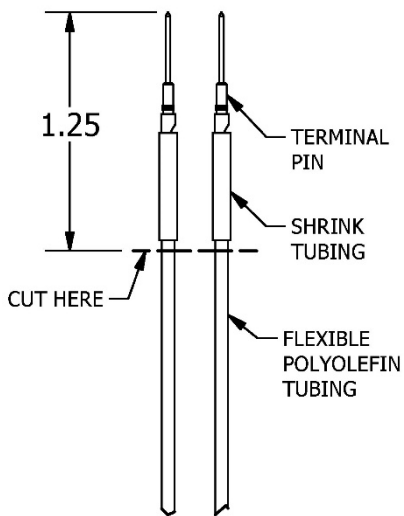
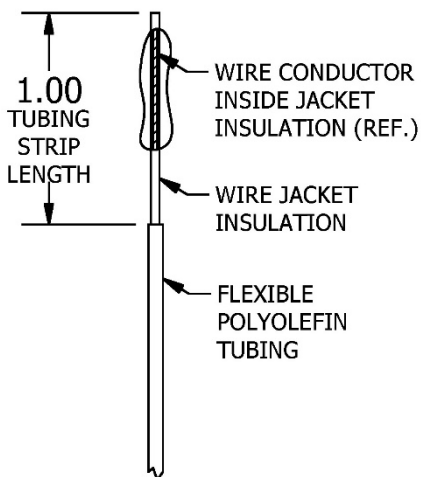

Figure 1
Figure 2
3. Unplug the (2) coil wire terminal pins from the double socket at the back of the old computer. Discard old computer.
4. Cut off the (2) coil wire terminal pin ends using dimension shown (see Figure 1) and discard ends. A flexible polyolefin tube casing covers the remaining (2) coil wires. Carefully strip 1" of the polyolefin tubing from the cut end of each coil wire. Do not cut or remove the jacket insulation from the coil wires (see Figure 2).